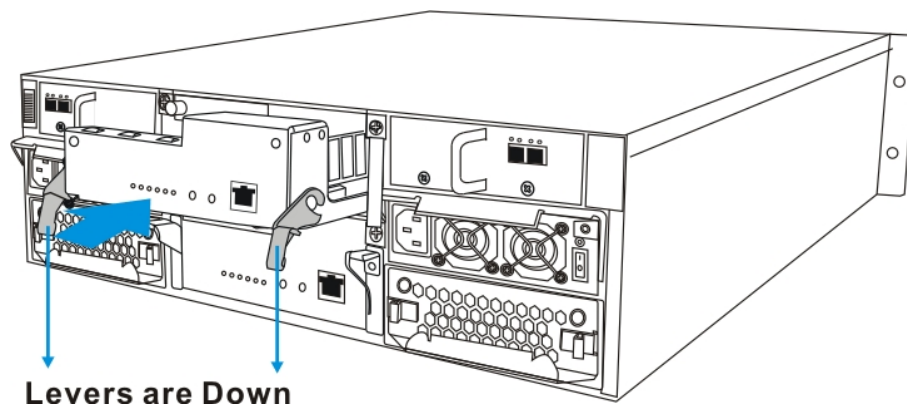

Fig. 2.4 Installing the Controller Module
2. Install the controller module. Make sure the levers at the back of the controller module are down. Align the controller module with the controller module bay at the rear of the subsystem. Gently slide the controller module in. (See Figure 2.4.)